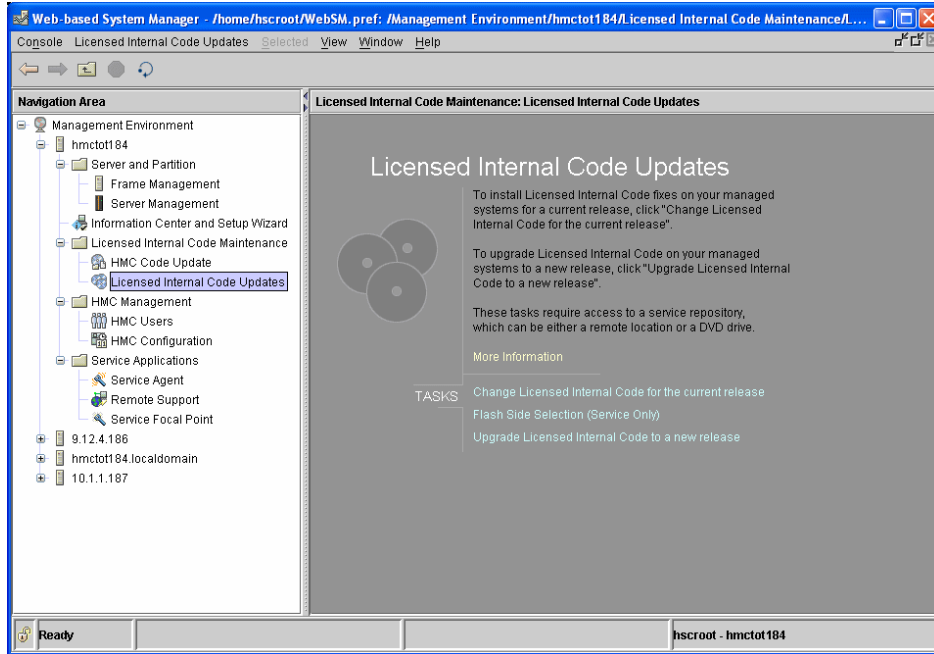

Figure 36 License Internal Code Updates menus on the HMC
1. Access License Internal Code Updates menus on HMC. In the **Management Area**, select **License Internal Code Maintenance** → **Licensed Internal Code Updates** (see Figure 36 on page 51). Select **Upgrade Internal Licensed Code to a new release**.